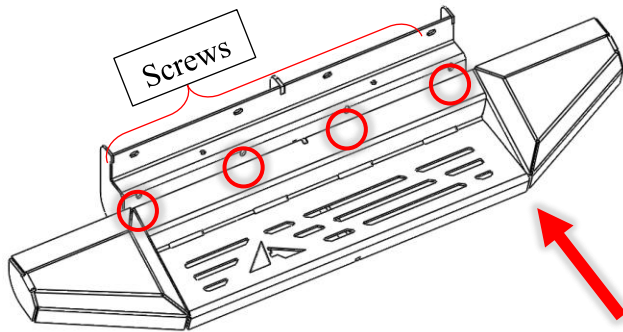

Figure 8: Driver's Side Step Install
- a. Line up the B-pillar seam with the inside of the rear shroud (Figure 8, arrow).
- c. Use six (6) self-tapping screws total for the upper vertical and horizontal flanges of the step brackets (Figure 8).
- d. Use four (4) 1/4"-20 bolts total for the pinch weld fasteners (Figure 8, circles).